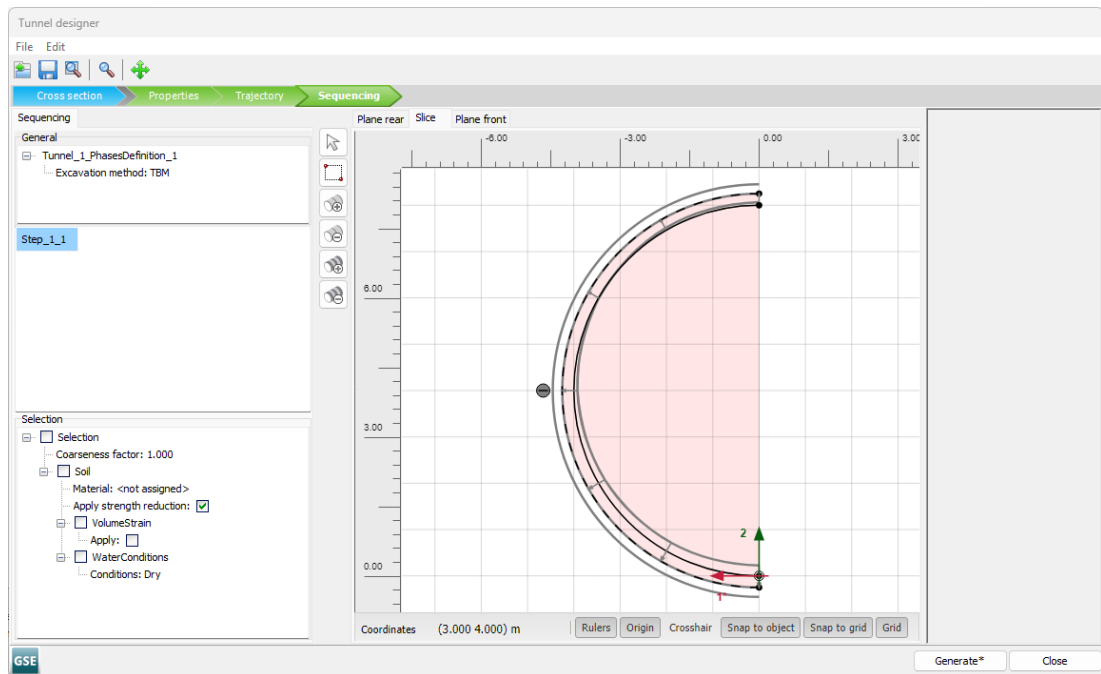

Figure 71: Slice from the face excavation - Deactivated soil volumes
- Select the volumes inside the tunnel and in the **Selection explorer**, deactivate the soil volumes and set the **WaterConditions** to *Dry* as displayed in Figure 71 (on page 98).